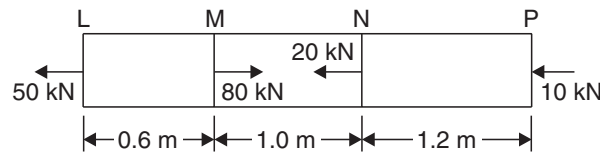

Fig. 12.27
4. A brass bar having a cross-sectional area of  $1000 \text{ mm}^2$  is subjected to axial forces as shown in Fig. 12.27. Find the total change in length of the bar. Take  $E_s = 105 \text{ GN/m}^2$ . [Ans. 0.1143 m (decrease)]